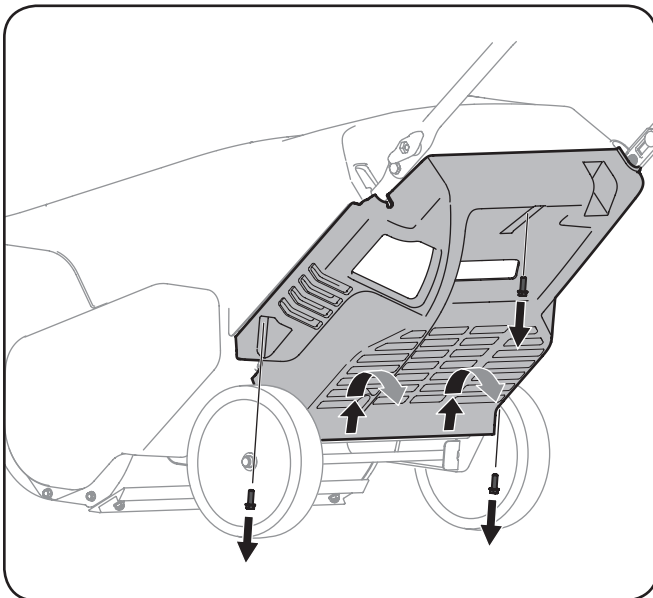

Figure 6-3
2. Remove the three screws that secure the lower panel. Remove the lower panel by lifting up on the panel to free the tabs at the bottom of the panel from the tab slots and then pull back. See Figure 6-3.